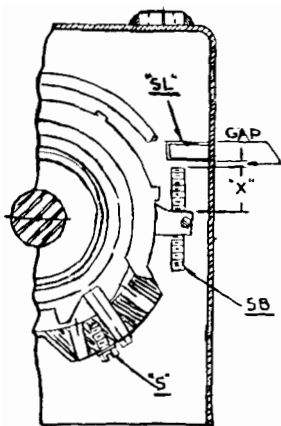

FIG. 1
2. Adjust stop bolt "SB" (bottom right hand) as follows: (Fig. 1)
3a. Operate mechanism with handle until stop bolt "SB" (Fig. 1) is about 1/2" away from stationary stop "SL". Leave it in this position. Close the air-break switch properly by operating directly at base of rotating insulator stacks; set stops on switch bases and connect the torsional operating pipe, first to switch rotor and then to angularly adjustable coupling at mechanism shaft.
3b. Operate mechanism with handle until stop bolt "SB" (Fig. 1) is about 1/4" away from stationary stop "SL" and leave it in this position. Open the air-break switch properly by operating directly at base of rotating insulator stacks. Set the stops at switch bases and connect the torsional operating pipe, first to switch rotor and then to angularly adjustable coupling at mechanism shaft.
Open switch again and disconnect couples at lower end of operating pipe from mate at mechanism shaft. Then close the switch a few degrees by operating directly at base of rotating insulator, and reconnect coupling. Repeat this procedure until the gap (Fig. 1) is about 1/4" with air-break switch properly closed. THE DIMENSION "X" MUST REMAIN AS SET IN PARAGRAPH 2.
TO WIND THE OUTER (MAIN) SPRING, TRIP THE MECHANISM, take out cap screw "S" (at bottom of mechanism - Fig. 1) which holds the locking pin in place, insert the spring winding rod, which is held loosely in socket at left-hand lower corner (see paragraph 11) into one of the vacant holes, and wind clockwise (looking from top) at the same time applying a light pressure to the end of